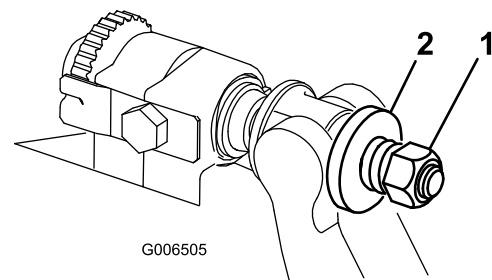

Figure 37
4. Tighten spring tension nut until spring is collapsed, then back off 1/2 turn (Figure 37).